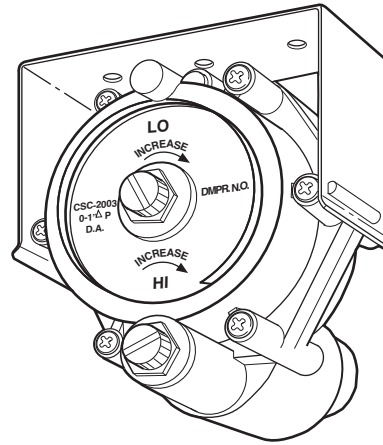

Fig. 9 — Pneumatic Volume Controller (Normally Open) for 35EP Unit (Beige Color)
- b. Adjust the minimum volume control knob (marked “LO” and located in the center of the controller) shown in Fig. 9 to achieve the required minimum flow. To determine the required pressure differential, refer to Tables 2 and 5 and the Linear Averaging Probe Chart provided on the side of the VAV unit and in Fig. 7.